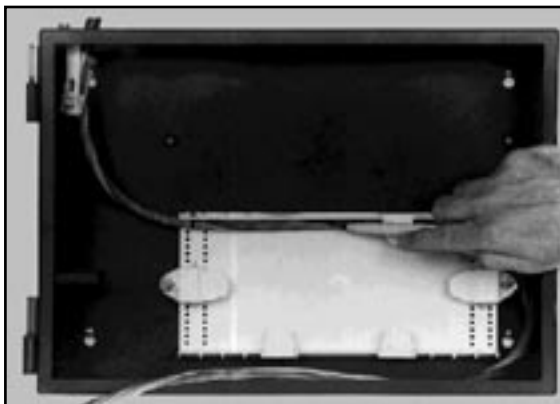

FIGURE 4 - MARKING BUFFER TUBES OR UNITUBES
4.08 Mark the buffer tubes or unitube at the upper wall center-line of the Transition Assembly as shown in Figure 4.